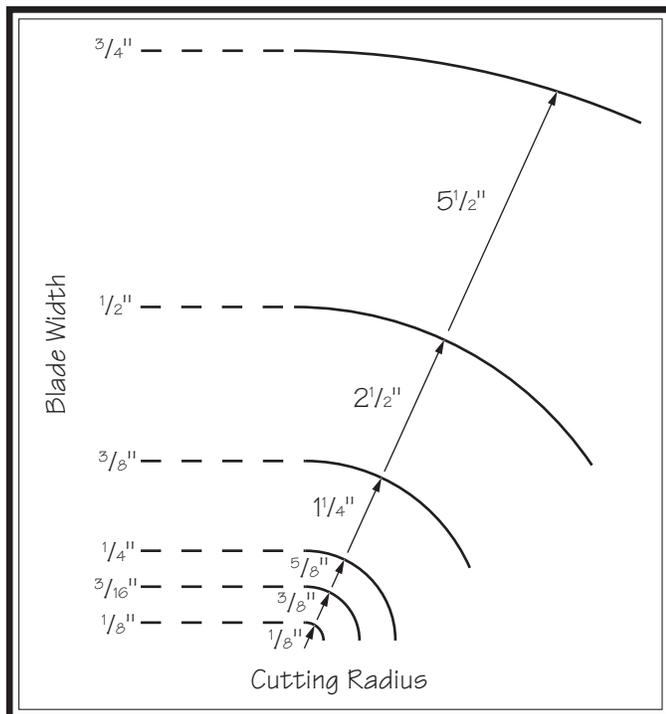

Figure 54. Recommended cutting radius per blade width.
- **Curve Cutting:** Use the chart in **Figure 54** to determine the correct blade for curve cutting. Determine the smallest radius curve that will be cut on your workpiece and use the corresponding blade width (refer to **Cutting Curves on Page 48** for more information).